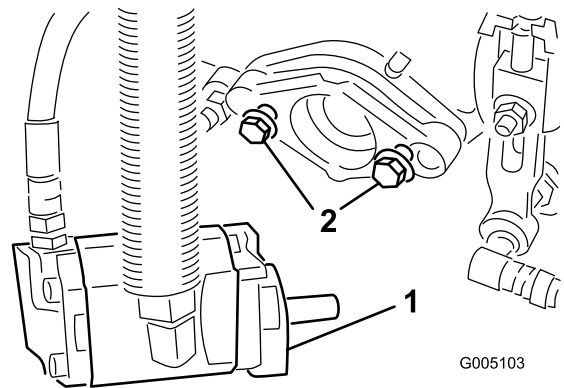

Figure 14
inch (13 mm) of threads exposed on each mounting bolt (Figure 14).
11. **Tighten the mounting bolts** (Figure 14).